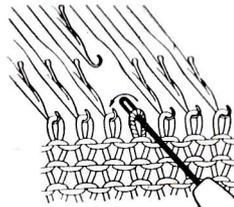

Fig. 25
- d. Lift the transfer tool with the stitch on it and transfer it to the adjacent needle, right or left as desired. (See Fig. 25)